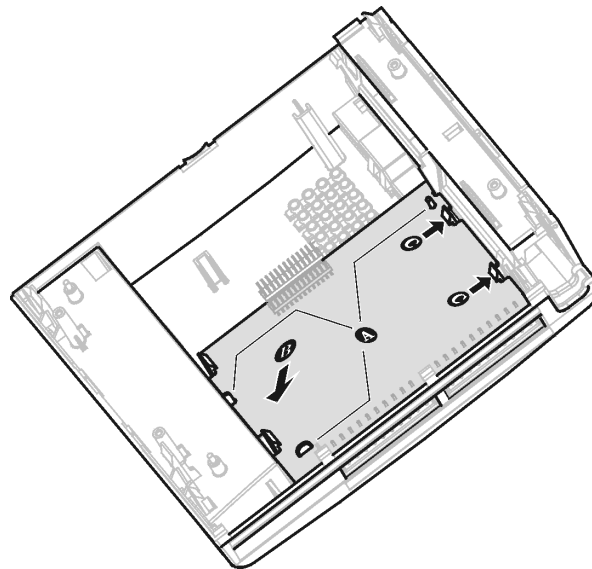

Figure 28
With the jumpers facing down and the 10-pin connectors on your right, lower the bottom of the Expansion board into the case. Align the peg on the upper left-hand side of the board (A) and the two tongues toward the bottom of the board (A) with the matching grooves (A) (see Figure 28). Press the Expansion board under the two large snaps at the bottom of the board until you hear them click (B). Press the top of the Expansion board under the two small snaps until you hear them click (C).